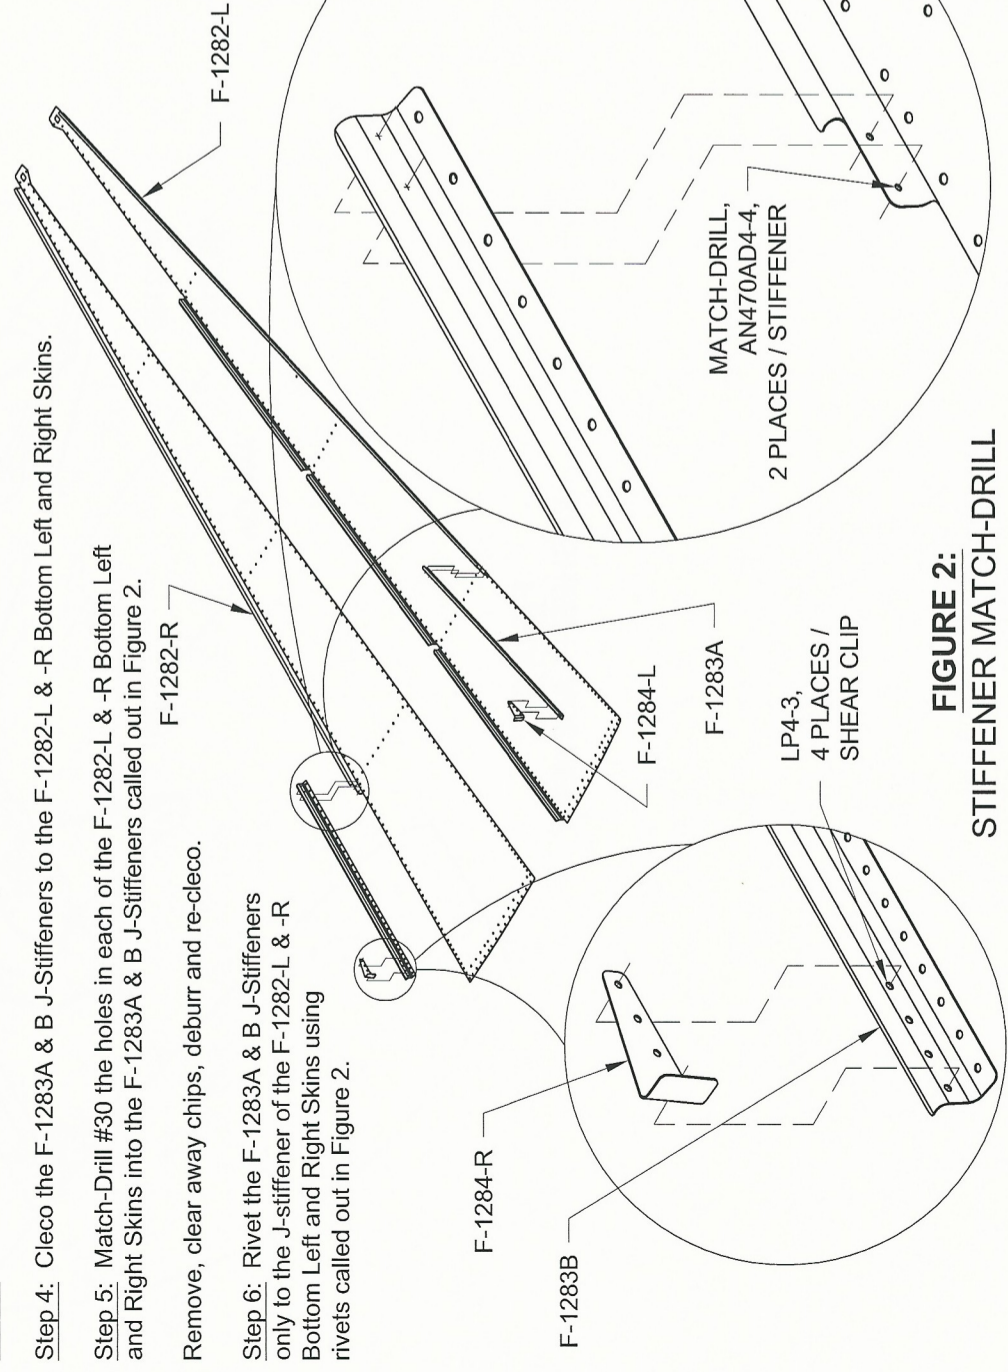

FIGURE 2:
Step 3: Rivet the F-1284-L & -R Shear Clips to the F-1283A & B J-Stiffeners using rivets called out in Figure 2.
Step 5: Match-Drill #30 the holes in each of the F-1282-L & -R Bottom Left and Right Skins into the F-1283A & B J-Stiffeners called out in Figure 2.
Step 6: Rivet the F-1283A & B J-Stiffeners only to the J-stiffener of the F-1282-L & -R Bottom Left and Right Skins using rivets called out in Figure 2.